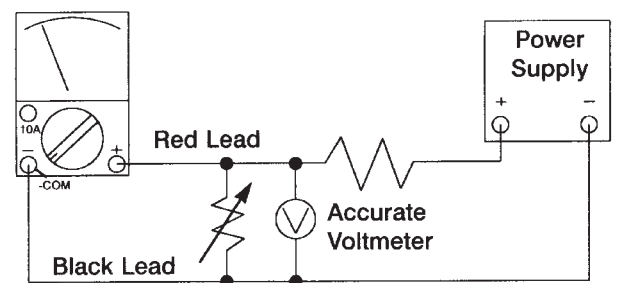

Figure 2
2. Obtain a voltage source of 0.4V as measured by an accurate voltmeter. The circuit of Figure 2 will work fine.
4. Connect the test leads as shown in Figure 2.
No DC voltage reading Refer to Figure 2 for a better understanding of how the meter works.	<ol style="list-style-type: none"> 1. Check for open fuse. 2. Check resistors R1 - R8, R13 for correct values and good solder connections. 3. Check that the PC board is seated properly and that the three board clamps are engaged. 4. Check the meter movement. Unsolder the red wire from the meter movement to the PC board. Place a 75kΩ resistor between the red wire and the positive side of a 1.5V battery. Connect the negative side of the battery to the black wire from the meter movement. The meter should read a little over half scale.